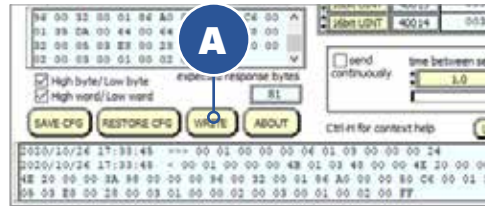

Figure 51.1.
- On the main screen click the Write button (A) near the bottom of the window as shown in Figure 51.1.